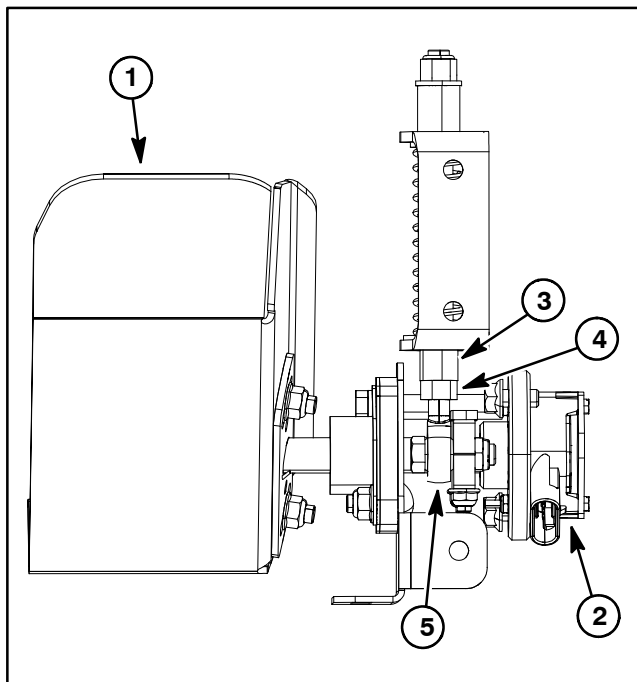

Figure 22
The traction pedal includes a neutral assembly that is used to adjust the traction neutral position (Fig. 22). Traction pedal adjustment may be necessary to make sure that traction pedal movement provides the correct full reverse and full forward positions for the traction pedal position sensor. The InfoCenter display can be used to check traction pedal adjustment using the following procedure.
5. If voltage range from full reverse to full forward is incorrect, adjustment of the spring shaft and rod end bearing is necessary (Fig. 22).